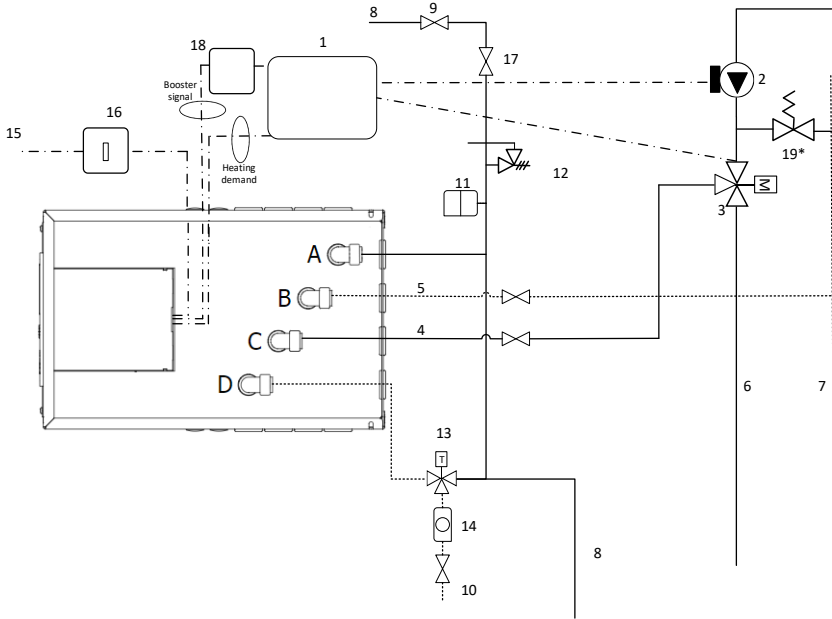

Figure 13.1: Example Wiring Option 2 Schematic (see Figure 3 for piping and electrical options available)
2. **Thermino hp-DN option 2:** Daikin Low Temperature Heat Pump (Fig 13.1 & 13.2)
- Run and connect 3 Core mains power supply cable (16A minimum, minimum 2.5mm² CSA) from the Double-pole isolating switch to the Heat Battery controller (Figures 13.1 and 13.2).